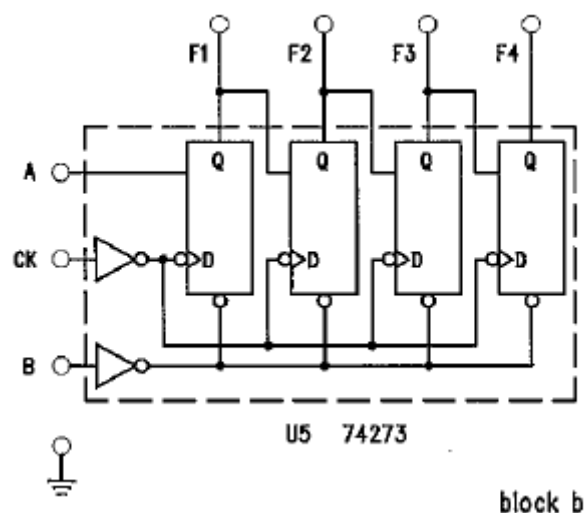

Figure 3.1
1. As shown in **Figure 3.1**, a shift register can be implemented with four D flip-flops, which is like the four-bit shift register “74273”.